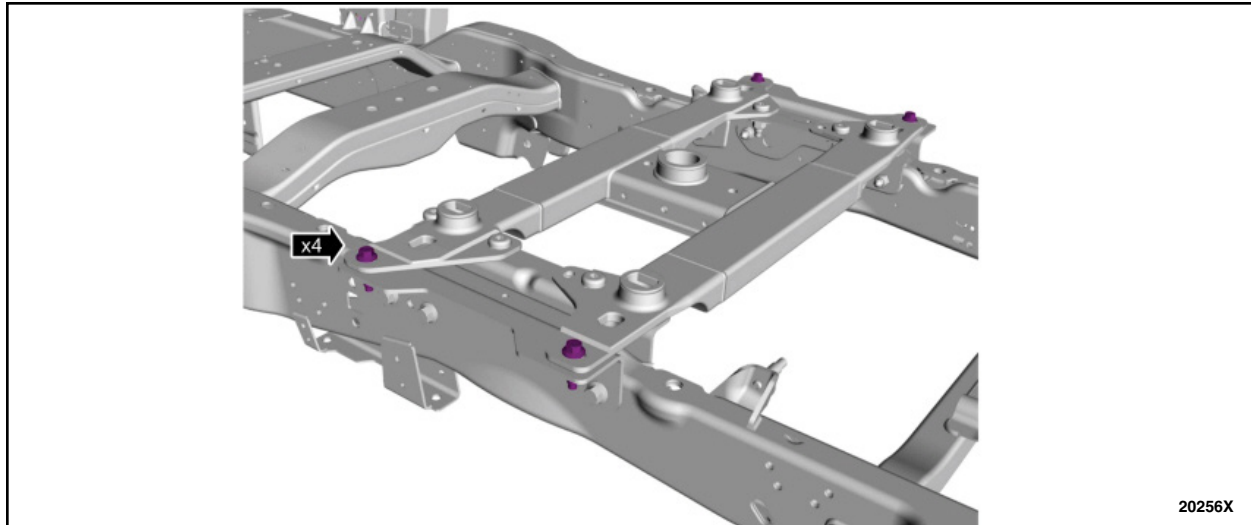

FIGURE 19
26. If equipped with the hitch assembly, remove the hitch-to-outer bracket bolts. See Figure 19.